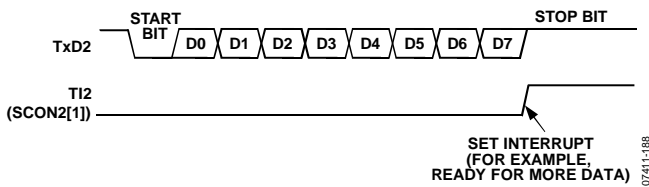

Figure 111. 8-Bit Variable Baud Rate
Transmission is initiated by a write to the Serial Port 2 buffer SFR (SBUF2, Address 0xEB). Next, a stop bit (1) is loaded into the ninth bit position of the serial port shift register. The data is output bit by bit until the stop bit appears on the TxD2 pin, and the Serial Port 2 transmit interrupt flag, TI2 (SCON2[1]) is automatically set, as shown in Figure 111.